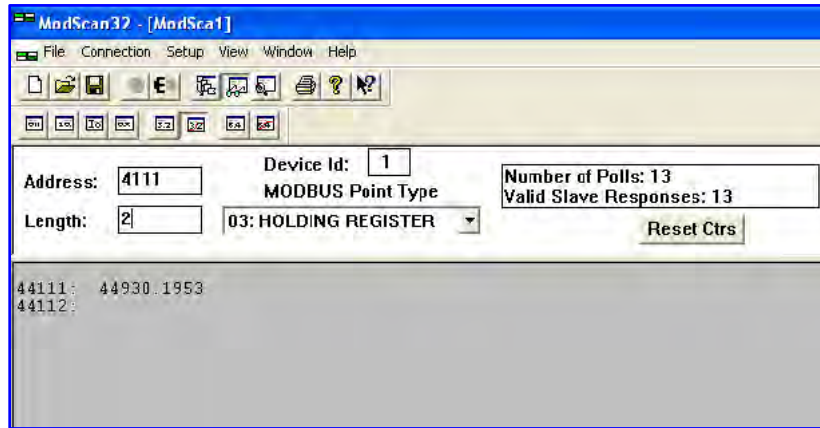

Figure 52 – ModScan32 Connected to Modbus Device with Registers 4111 and 4112 on Display (Totalizer 1 Count)
- After entering the appropriate connection details the ModScan32 master then attaches itself to the Modbus device (ST80/ST80L) as shown in Figure 52 below. The register value displays in the bottom, gray part of the window.